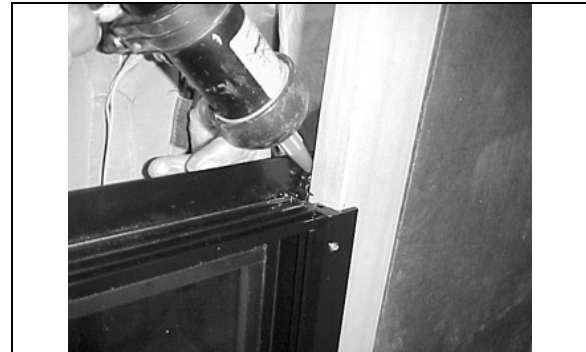

FIGURE 80 : SLIDING WINDOW - SEAL THE UPPER CORNERS
7. Using Sika 252 or 255, seal the inside upper corner of the sliding window, both side (FIGURE 80);